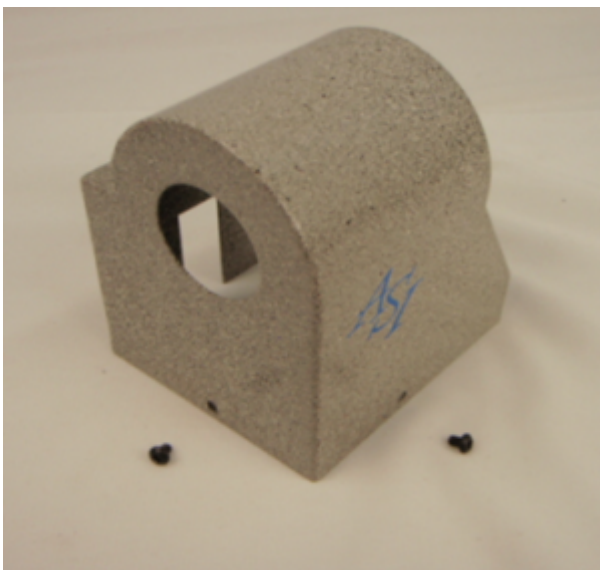

Figure 5a
- a) Locate the motor drive cover and the 2 3mm button head screws shown in figure 5a. You might have to remove the 2 screws from the baseplate holes. Place the cover over the motor drive.